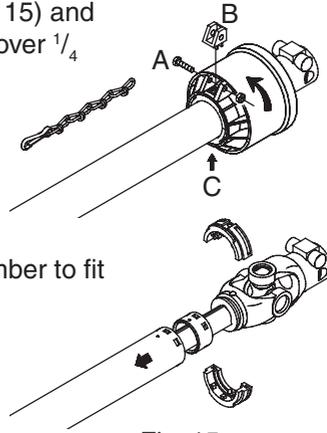

Fig. 15
1. Remove bolt (A) (Fig. 15), lock (B) (Fig. 15) and grease nipple (C) (Fig. 15). Twist joint cover $\frac{1}{4}$ turn and pull it backwards.